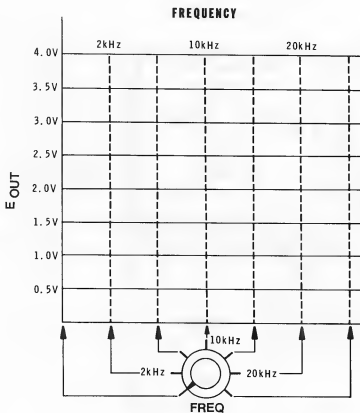

Figure 2-92
20. Connect the voltmeter across R. Using the above procedure plot the response curve for this circuit. Use the graph in Figure 2-92 to plot the curve.